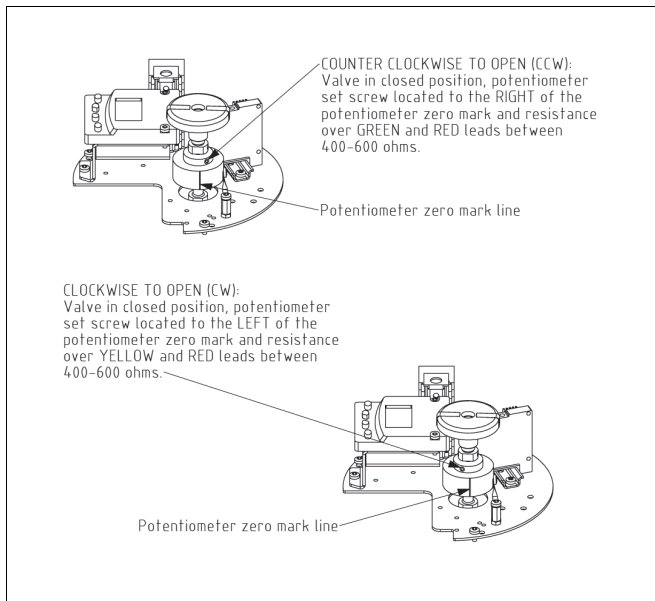

Fig. 48 Potentiometer operation.
- ❑ Adjust the potentiometer unit to correct angle by rotating the inner section of the potentiometer (smaller diameter cylindrical part on top side of the potentiometer unit). The correct angle depends on the valve operation orientation; CCW or CW to open (see Fig. 48). The centerline mark on the potentiometer side helps aligning the potentiometer for initial position. Make sure that the valve and axis stay stationary in closed position when adjusting the potentiometer orientation.